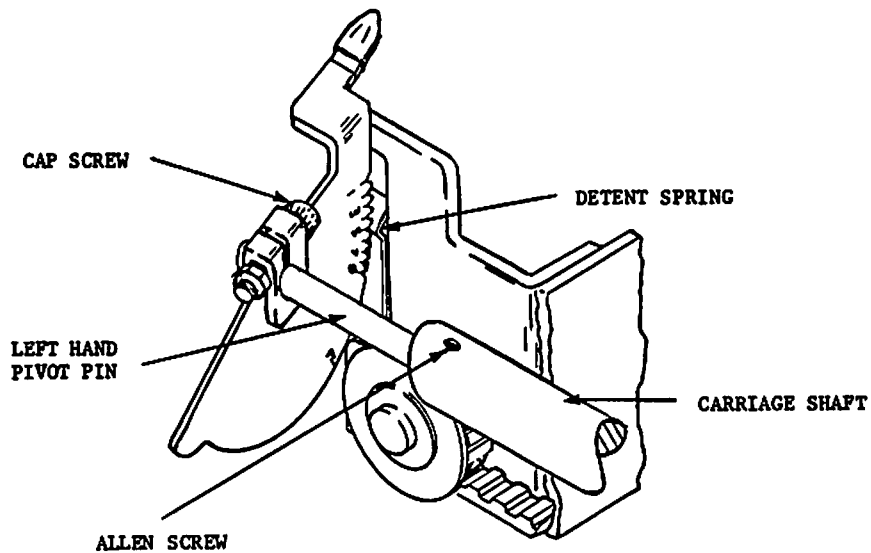

FIGURE 5-4 HEAD ADJUSTMENT ARM ASSEMBLY
5.3.2 HEAD ADJUSTMENT ARM (Figure 5-4)